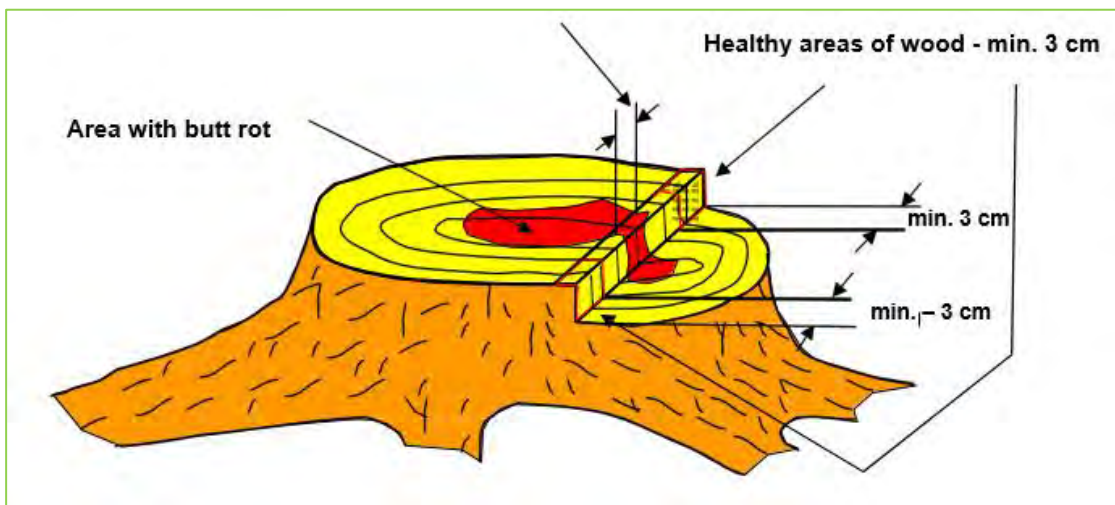

Figure 19: Tree confirming to regulations in terms of butt rot
Complaints about butt rot only can be made if this clearly affects the technique of cutting or felling unfavorably. In terms of butt rot, according to the regulations a tree should have the following properties (see figure 19):
- Any areas of rot within the hinge must not cover more than 1/3 of the hinge (see figure 19).